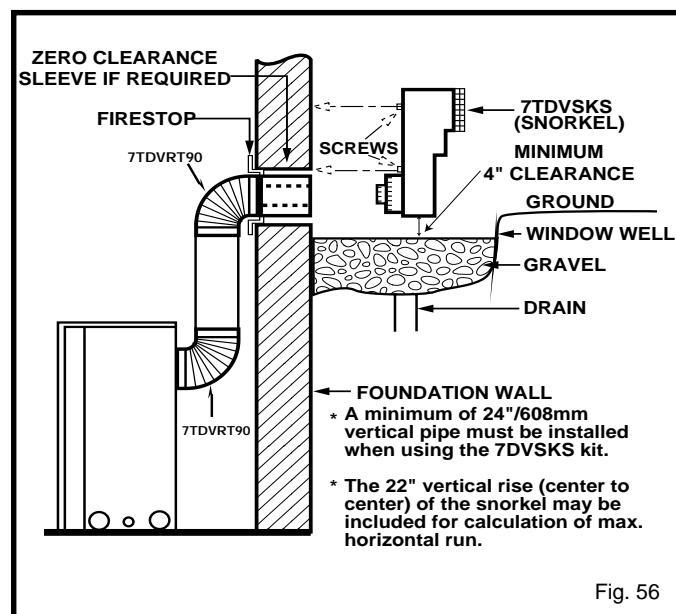

Fig. 56
The maximum horizontal run with 24" vertical rise is 36" (915mm) from the back of the fireplace to the face of the exterior wall. See vent graph (Fig. 56) for extended horizontal run if the vertical exceeds 24".
2. Remove soil to a depth of approximately 16" below base of snorkel. Install window well (not supplied). Refill hole with 12" of coarse gravel leaving a clearance of approximately 4" below snorkel. (Fig. 56)
7. Level the soil so as to maintain a 4" clearance below snorkel (Fig. 56).